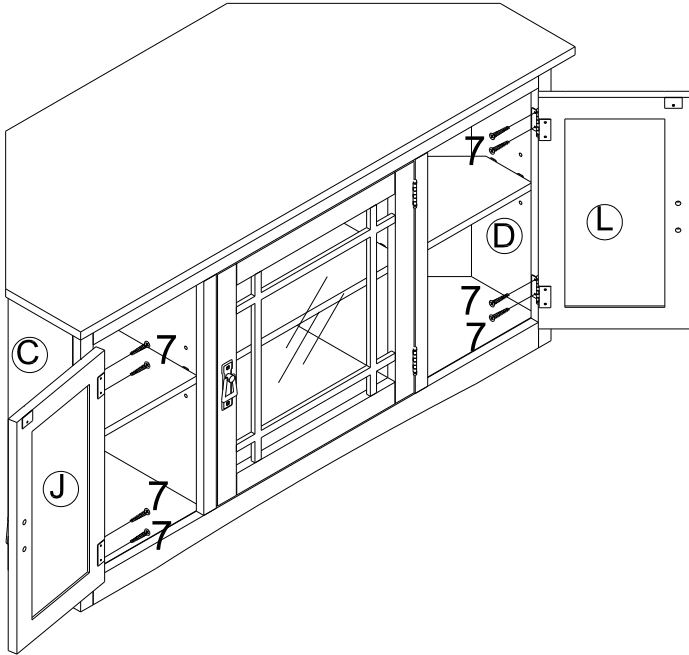

Figure 13
Attach Doors (J) (L) with hinges to the Side Panels (C) (D) using Screws (7) as shown in Figure 13.